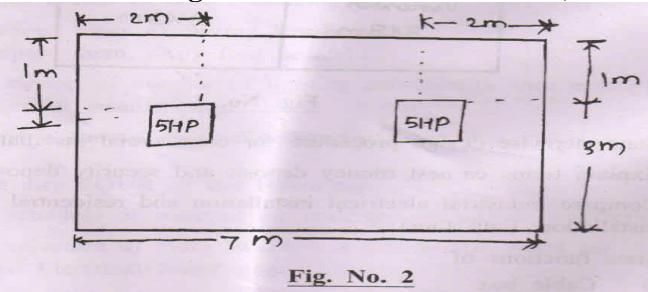

Fig. No. 2
- b) Prepare schedule of material for given industrial installation. (Refer Fig. No. 2)